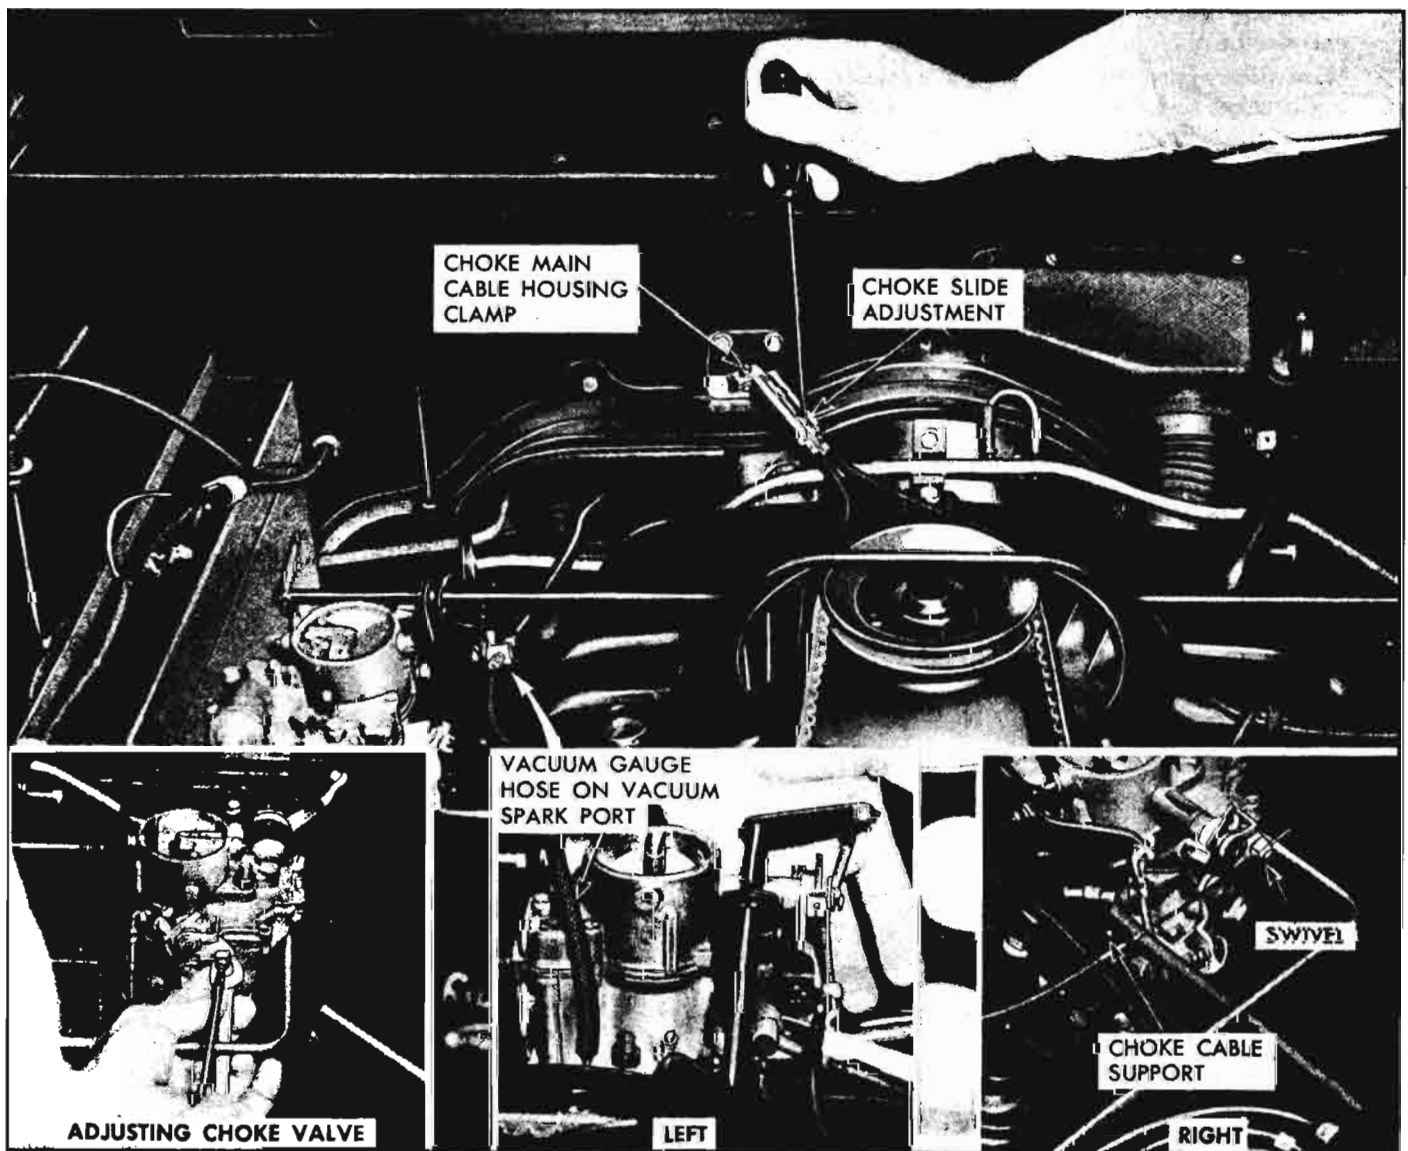

Fig. 9-14—Choke Linkage
1. With the slide $\frac{1}{4}$ " from the rear of the mounting bracket (fig. 9-14) and choke knob on dashboard out approximately $\frac{1}{8}$ ", tighten the slide screw onto main choke cable wire.
2. Assemble cable and housing assemblies loose at both carburetor mounting brackets (fig. 9-14). Extend cable housing approximately $\frac{1}{4}$ " beyond mounting bracket clamp and tighten clamp at each carburetor.